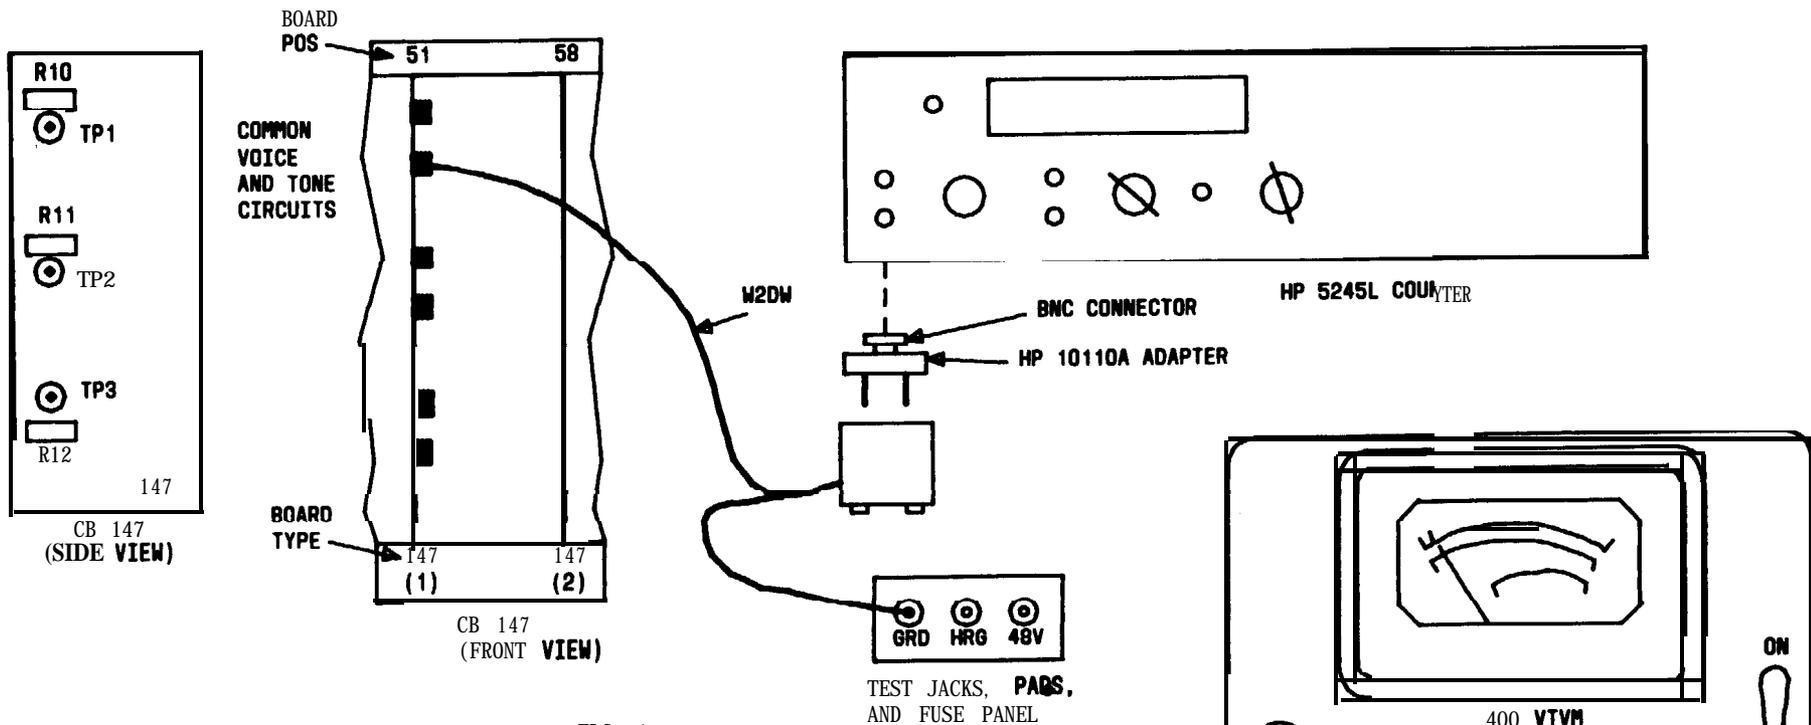

FIG. 1
- [5] ON COMMON VOICE AND TONE (CV AND T) CIRCUITS, LOCATE CIRCUIT BOARDS (CB) 147 AND 147-2 [FIG. 1]